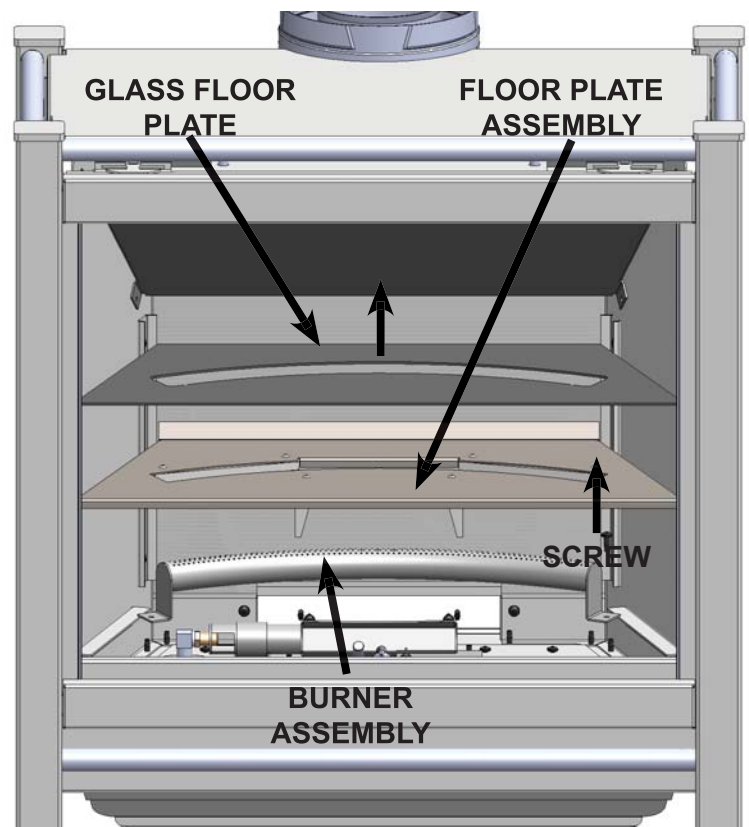

Fig.3
3. Remove the glass floor plate and set it aside. (Fig.3)
4. Remove the floor plate assembly and set it aside. (Fig.3)
6. Remove the screw from the right hand side of the burner assembly. (Fig.3)